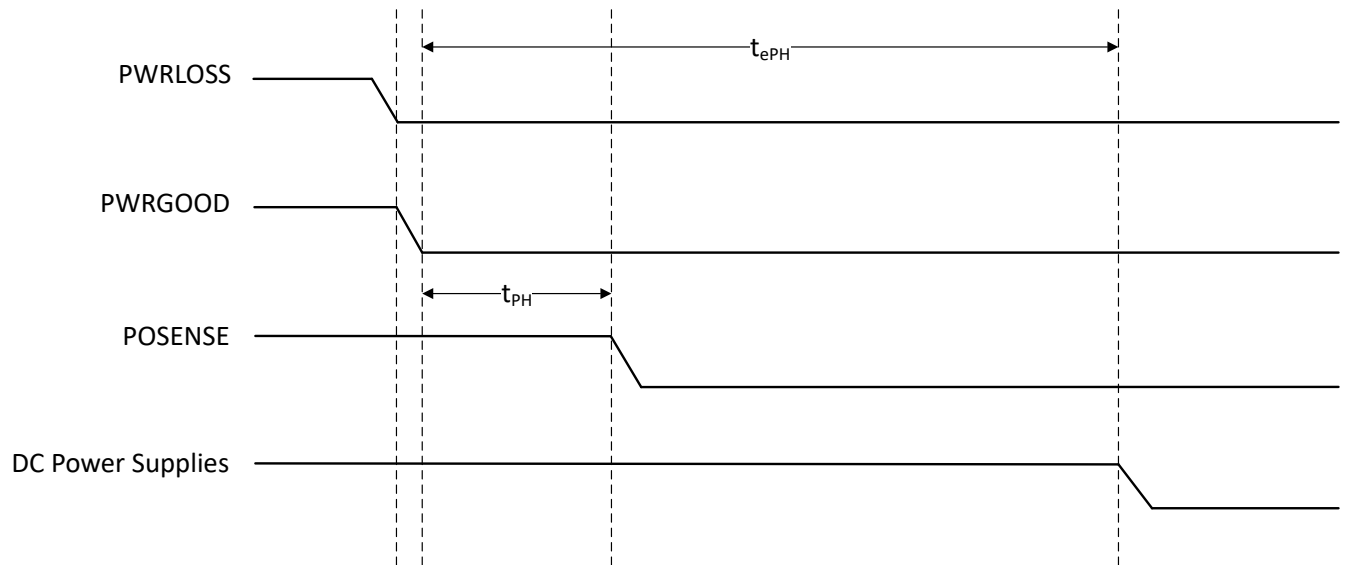

Figure 5-5. Unanticipated Power Loss Timing Diagram
2. An unanticipated power loss. In this case a power loss detection circuit must provide a means of triggering a power loss. Figure 5-5 shows a timing diagram where the Voltage Monitor detects a power loss and deasserts PWRGOOD. **Power Regulation must maintain the DC Power Supplies until the minimum t_{ePH} is met.** During t_{ePH} the DLPC900 performs the necessary power down sequence on the DMD. The power supplies can be allowed to drop below their specifications once the minimum t_{ePH} is met.